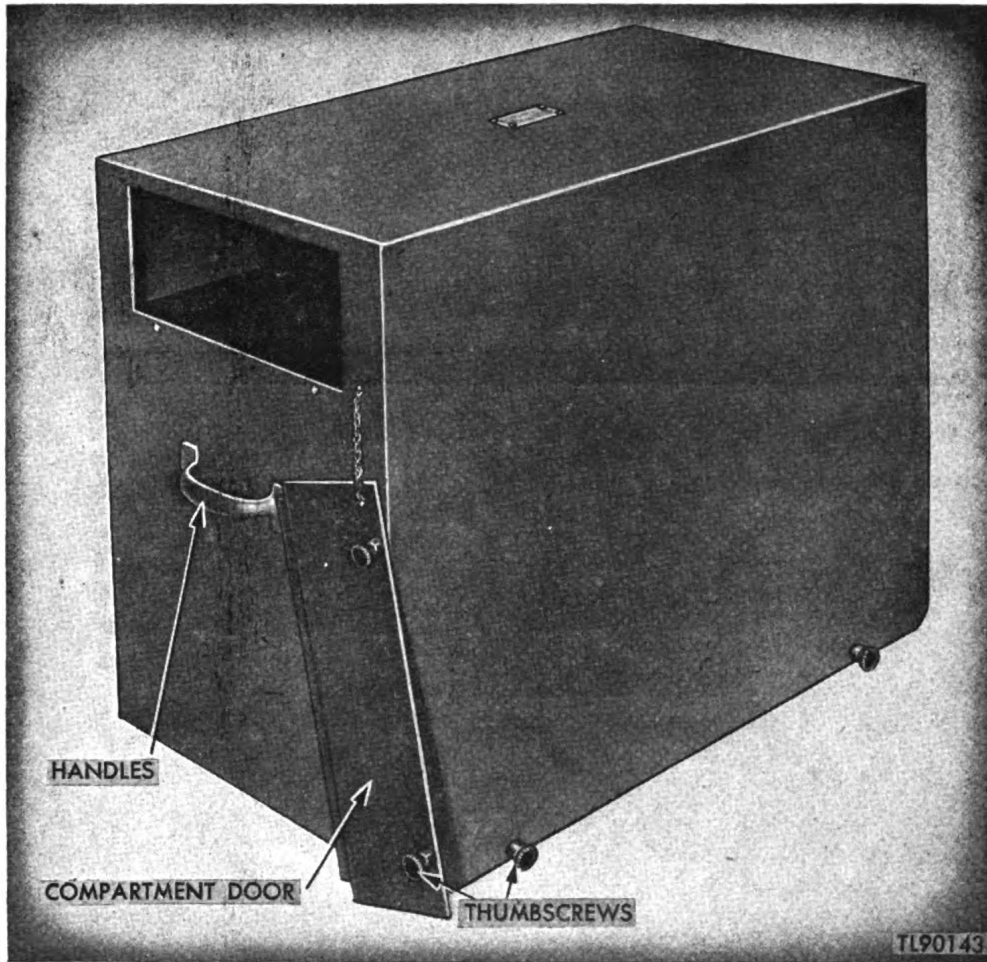

Figure 15. Metal hood for Power Unit PE-49-D.
b. POWER UNIT PE-49-D (fig. 15). The hood is constructed of stainless steel sheets, and is spot-welded together. The hood serves as a cover for the entire power unit when the unit is not in use. A compartment is located at one end of the hood for storing spare parts and accessory equipment. Thumbscrews are provided to fasten the hood securely to the skid base, and to lock the door of the compartment.